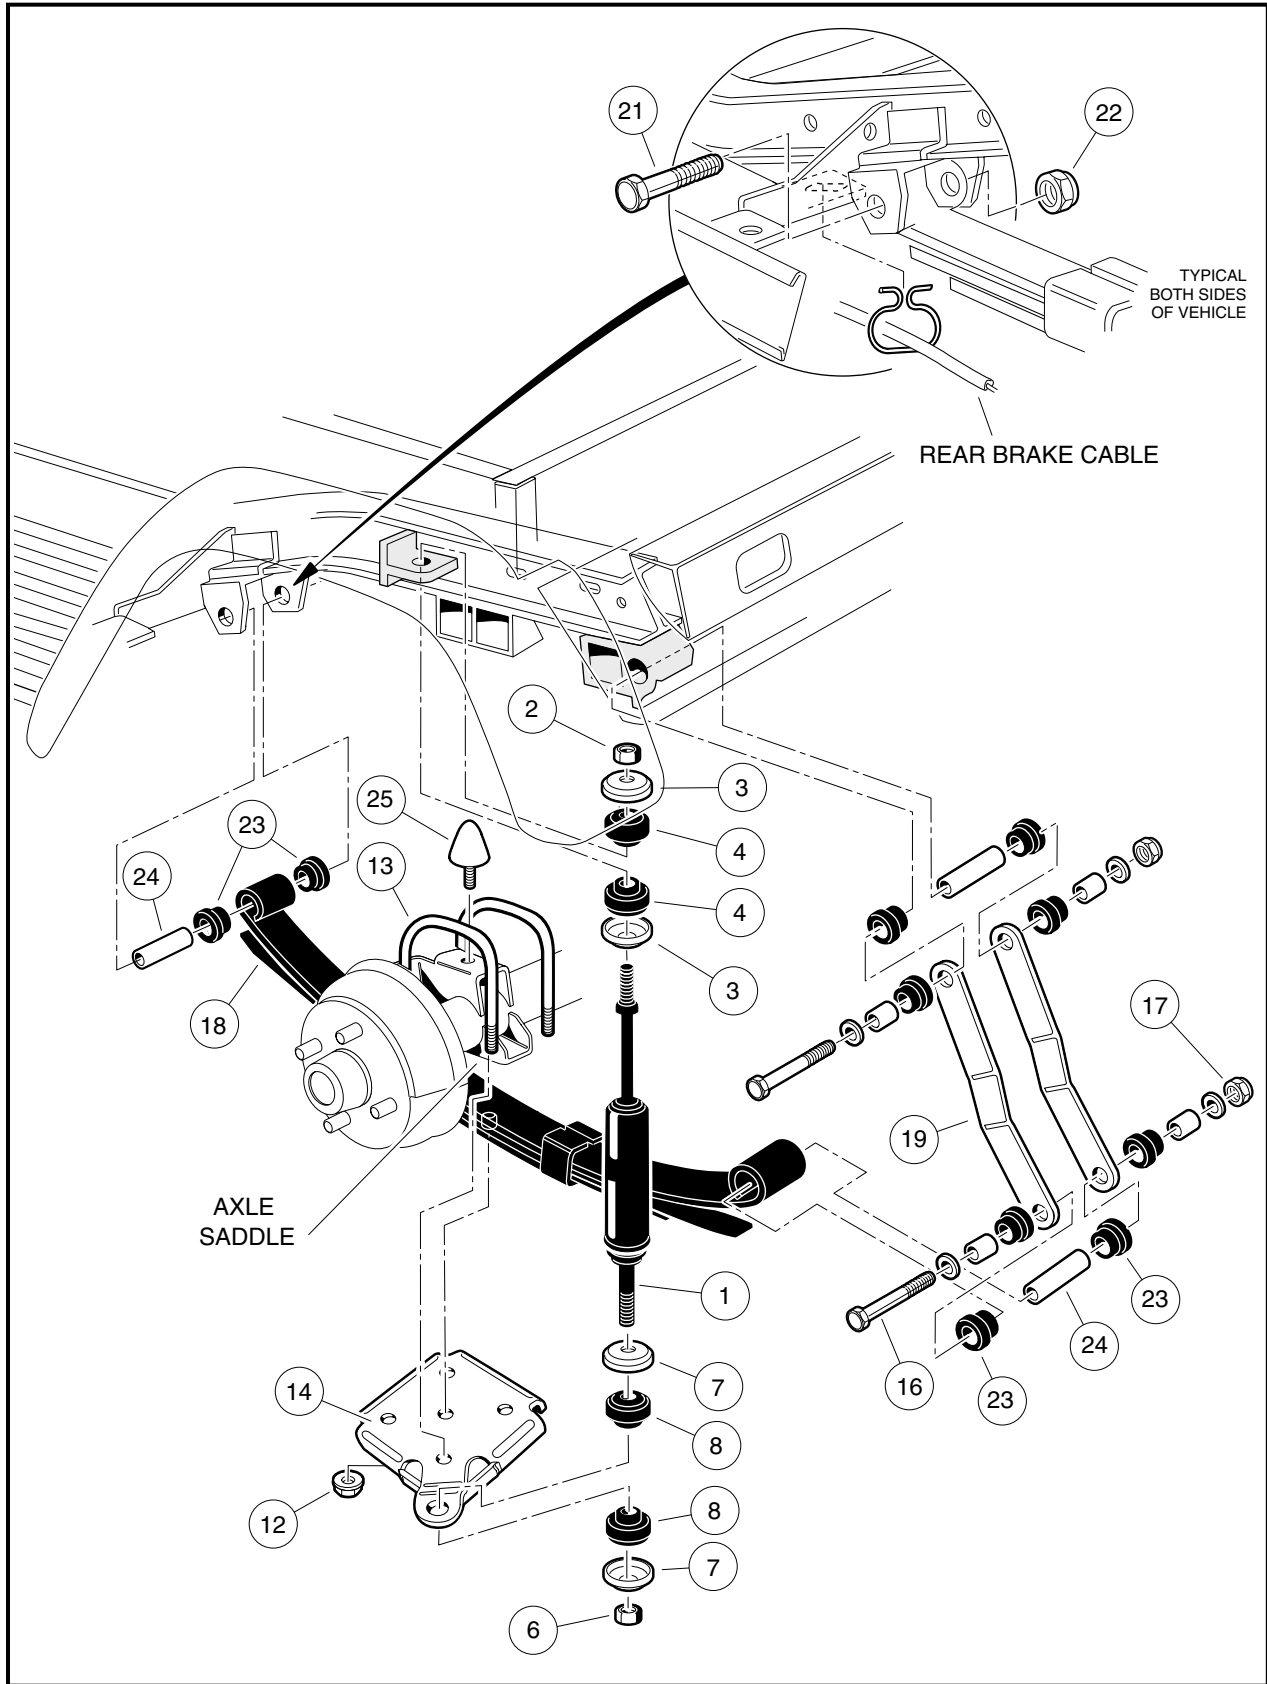
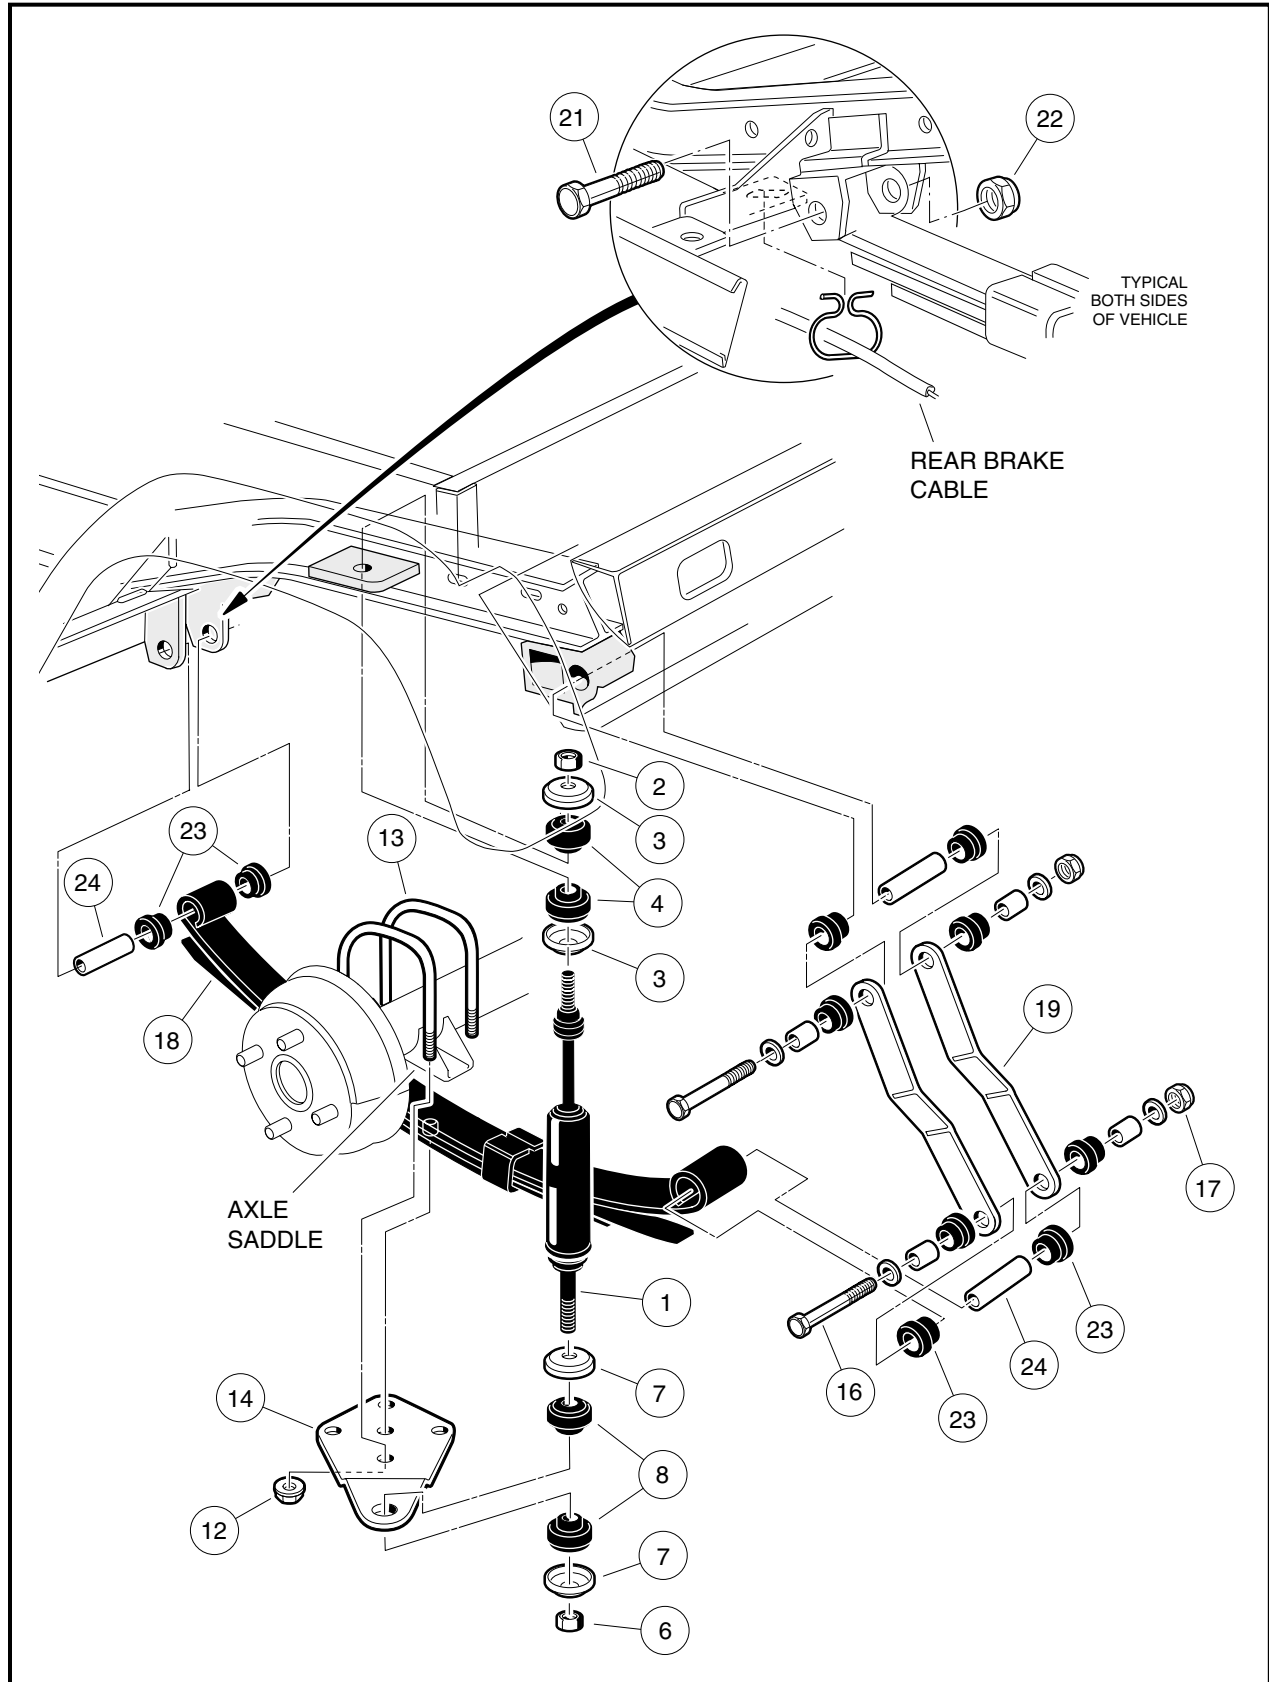

Figure 9-1 Rear Suspension for MC012C-AS00 Transaxle
Figure 9-2 Rear Suspension for MC010C-BS00 Transaxle
1. Check shock absorbers (1) for damage or fluid leakage around the lower housing of the shock absorber body. Replace damaged or leaking shock absorbers (**Figure 9-1, Page 9-3 or Figure 9-2, Page 9-4**).
2. To remove a shock absorber (1), remove the nut (2), cup washers (3) and rubber bushings (4) from the upper shock absorber stem.
2. On the upper shock absorber mount, tighten nut (2) until rubber bushings (4) expand to the same diameter as the cup washers (3) (**Figure 9-1, Page 9-3 or Figure 9-2, Page 9-4**).
3. On the lower shock absorber mount, install mounting hardware. Tighten the nut (6) until the rubber bushings (8) expand to the same diameter as the cup washers (7).
7. Remove the lock nuts (12) attaching the U-bolts (13) to the shock mount bracket (14) (**Figure 9-1, Page 9-3 or Figure 9-2, Page 9-4**).
8. Remove bolt (16) and lock nut (17) attaching the leaf spring (18) to the rear shackles (19).
9. Allow rear of leaf spring (18) to rest on the ground and remove the bolt (21) and lock nut (22) attaching the front of the spring to the vehicle frame. Remove spring from vehicle.
10. Inspect the rubber bushings (23) and steel sleeves (24) in the spring eyes and replace them if they are worn or damaged.
1. Install rubber bushings (23) and steel sleeves (24) into both leaf spring eyes if bushings were removed (**Figure 9-1, Page 9-3 or Figure 9-2, Page 9-4**).
2. Place front of leaf spring (18) into front spring mounts and insert the grade-eight bolt (21) through mount and leaf spring eye. Install lock nut (22) and tighten to 15 ft-lb (20.3 N·m).
3. Align the other end of leaf spring with the holes in the spring shackles (19). Insert bolt (16) through leaf spring eye and shackles. Install lock nut (17) and tighten to 15 ft-lb (20.3 N·m). Lower transaxle onto leaf spring (18) (**Figure 9-1, Page 9-3 or Figure 9-2, Page 9-4**).
- When placing transaxle on spring, be sure to position locating bolt on the spring in the center locating hole in the axle saddle (**Figure 9-1, Page 9-3 or Figure 9-2, Page 9-4**).
4. Install shock mount bracket (14) onto locating bolt at bottom center of leaf-spring. **See preceding NOTE.**
5. Install U-bolts (13) and lock nuts (12). Tighten lock nuts in a crisscross pattern to 35 ft-lb (47.5 N·m).